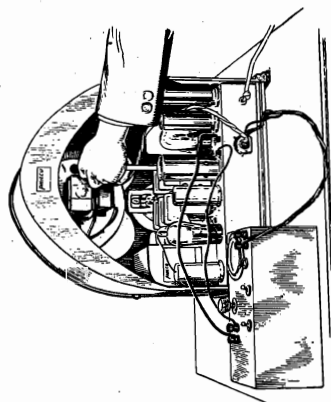

Fig. 2
1. Connect from the A terminal of the oscillator to the ANT terminal of the broadcast receiver. All other connections remain the same as for adjustment of the I. F. compensating condensers. See Fig. 2 for complete connections.